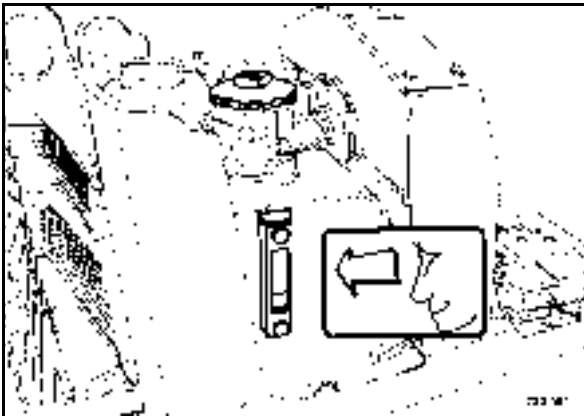

Fig. 128
- Check the oil level in the inspection glass (Fig. 128).